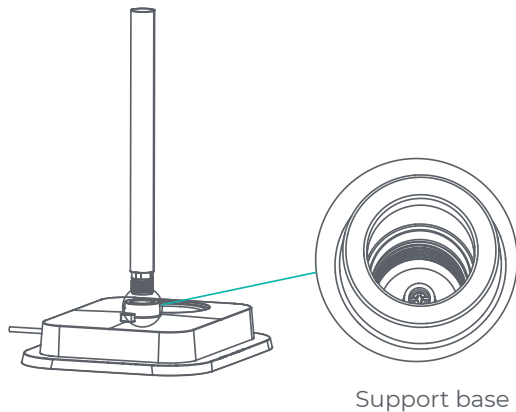

Fig. 1
2. Install one telescopic pole onto the support base of the main body (see Fig. 1).